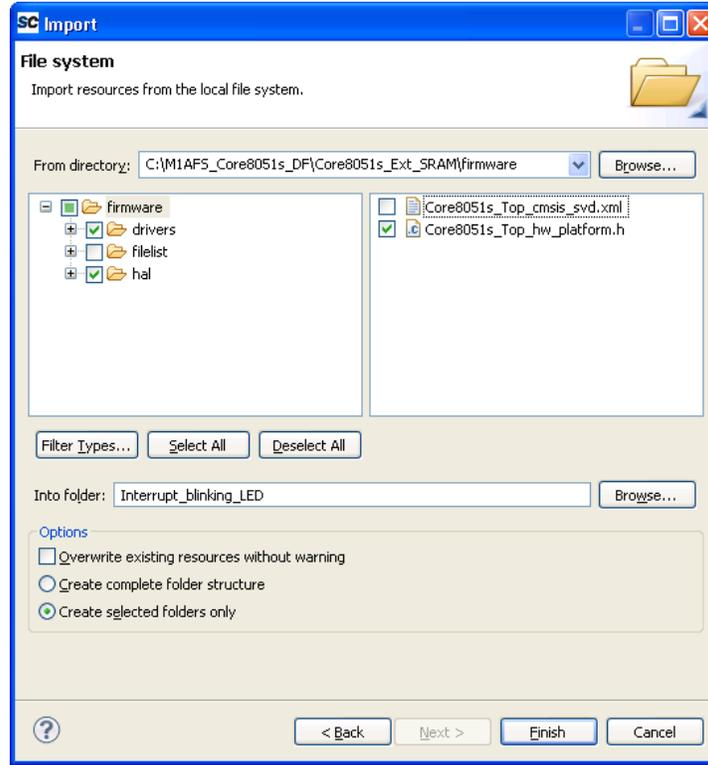

Figure 23 Select the Files to Import
- Select the drivers, HAL and Core8051s_Top_hw_platform.h file, as shown in Figure 23.